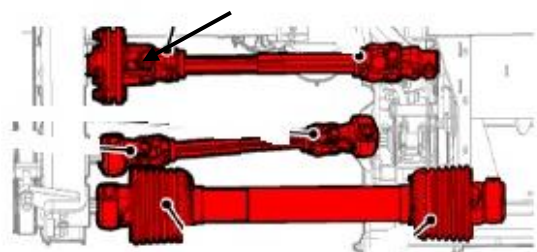

Figure 49
1. Remove the drive shafts from the left-hand GT case. This is done by pressing the release on each end of the shaft. Remove the bolt retaining the clutch shaft to the GT case. Figure 49